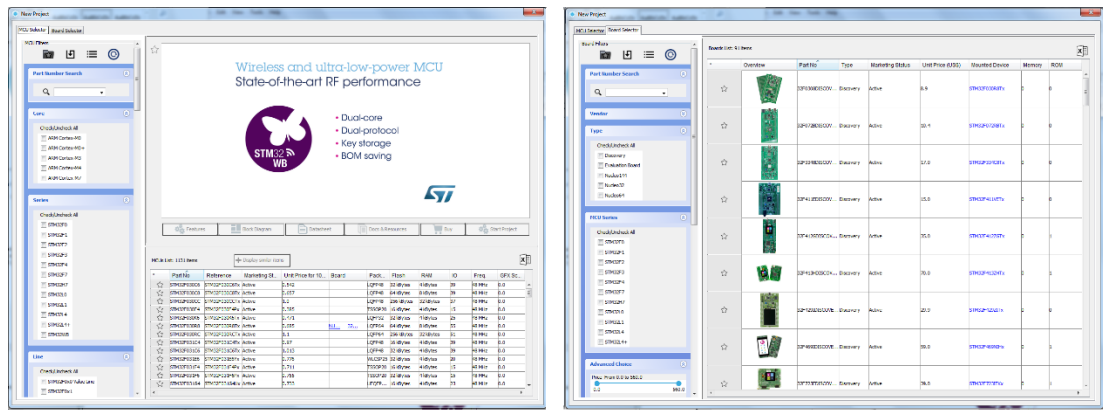

Figure 2 STM32CubeMX MCU/Board Selector windows
- Figure 2 STM32CubeMX **MCU/Board Selector** windows